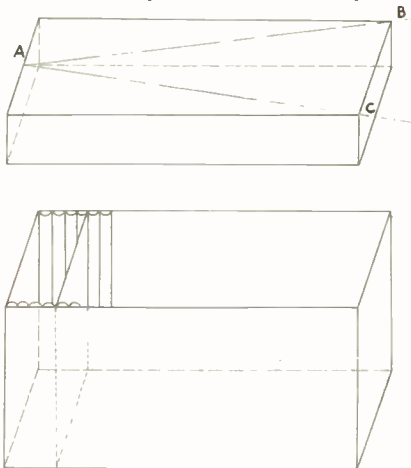

Fig. 1
Shown in Fig. 1 is an arrangement of corrugated cardboard lining the sides of the box. This is to facilitate adjustment of the distance between pinhole and plate. A quarter-plate is best set at approximately 4 ins. from the pinhole, while 6 ins. should be sufficient for a half-plate. Use those distances as a
As it is impossible to view the proposed picture with a pinhole camera, Fig. 1 also shows an arrangement for roughly estimating the limits of same. However, in cameras with provision for the adjustment of the plate distance in relation to the pinhole, point (A) must be moved forward to coincide with the top of the plate. A similar arrangement on either side of the camera will serve equally well to indicate the proportions of the proposed picture in the perpendicular plane.